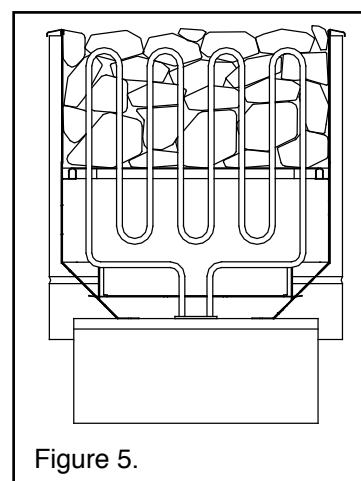

Figure 5.
- The stones must cover the heating resistors completely (Figure 5).